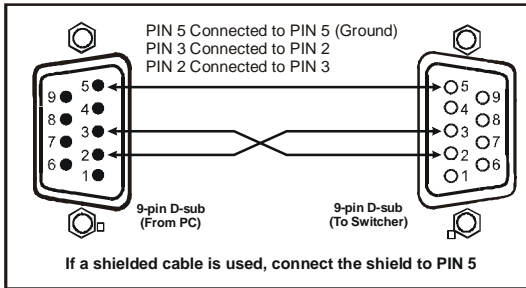

Figure 6: Connecting a PC
- Connect the RS-232 9-pin D-sub port on your PC to the RS-232 9-pin D-sub rear panel port on the **VP-411DS** unit, forming a cross-connection¹, as Figure 6 illustrates